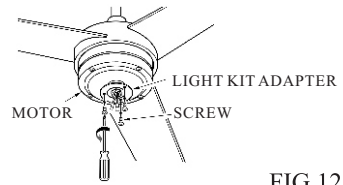

FIG.12
1. Remove 3 screws on light kit adapter, (See Fig.12)